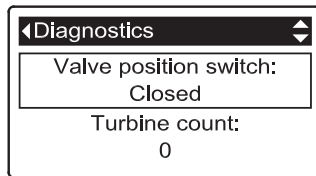

FIG. 140
2. Press the DOWN (▼) button to scroll through the list until **Valve position switch** is displayed (See Figure 140).